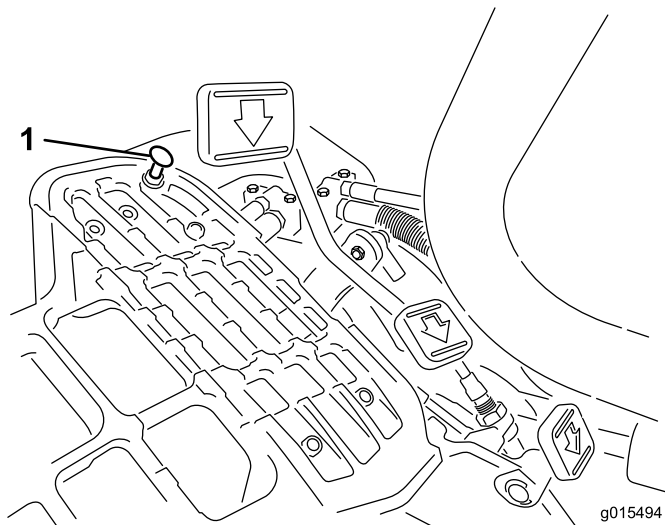

Figure 50
To obtain maximum transport speed, put the functional control lever in the transport position and press down on the traction pedal. If the pedal contacts the stop (Figure 50) before tension is felt on the cable, an adjustment is required:
1. Put the functional control lever in the transport position and loosen the locknut securing the pedal stop to the floor plate (Figure 50).